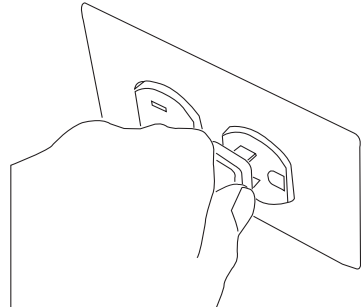

Fig. 7
2. Plug the charger's power cord into 120V wall outlet (**Fig. 7**).